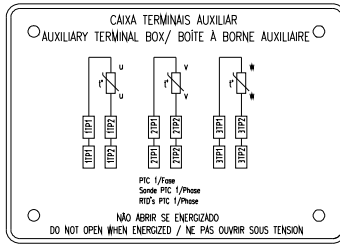

Figure 20 - Auxiliary terminal box plate
- Auxiliary terminal box indicative plate with connection scheme for accessories (see figure 20)